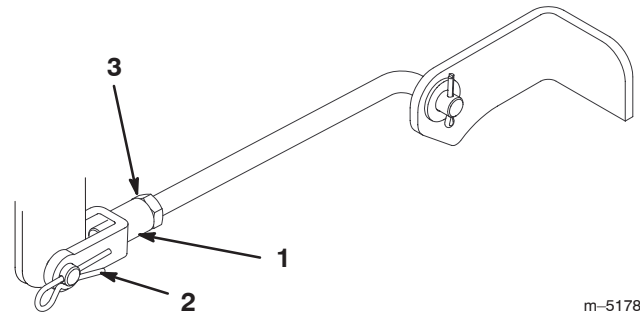

Figure 41
9. To adjust the front-to-rear blade slope, remove the hairpin cotter from the front trunion yokes and loosen the jam nuts (Fig. 41).
10. Rotate the yokes on the rods to change the adjustment (Fig. 41). To raise the front of the mower, tighten the yokes (shorten the rods). To lower the front of the mower, loosen the yokes (lengthen the rods).